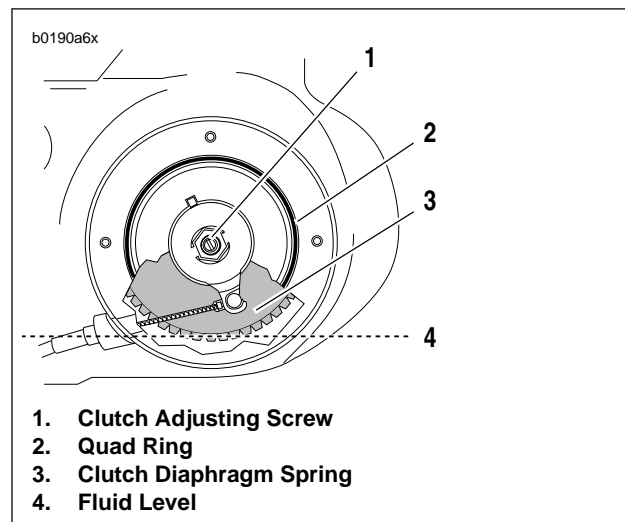

Figure 1-17. Fluid Level
6. See Figure 1-17. Add SPORT-TRANS FLUID (Part No. 98854-96 quart size; Part No. 98855-96 gallon size) as required until fluid level (4) is even with bottom of clutch diaphragm spring (3).